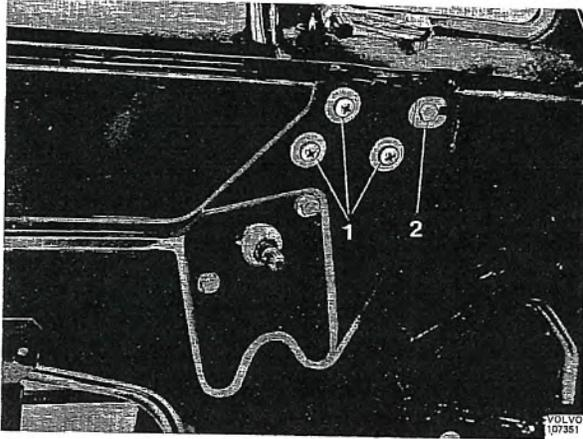

Fig. 8-23. Screws for ventilation window
4. Undo the screws holding the frame (1, Fig. 8-23).
2. Undo the plastic covering over the door and release the bolt (2, Fig. 8-23). Put your hand through the large hole in the inner plate of the door and remove the cover for the ventilation window pivot pin.
4. When fitting, tighten the bolt (2, Fig. 8-23) until the window is sufficiently stiff to open and close.